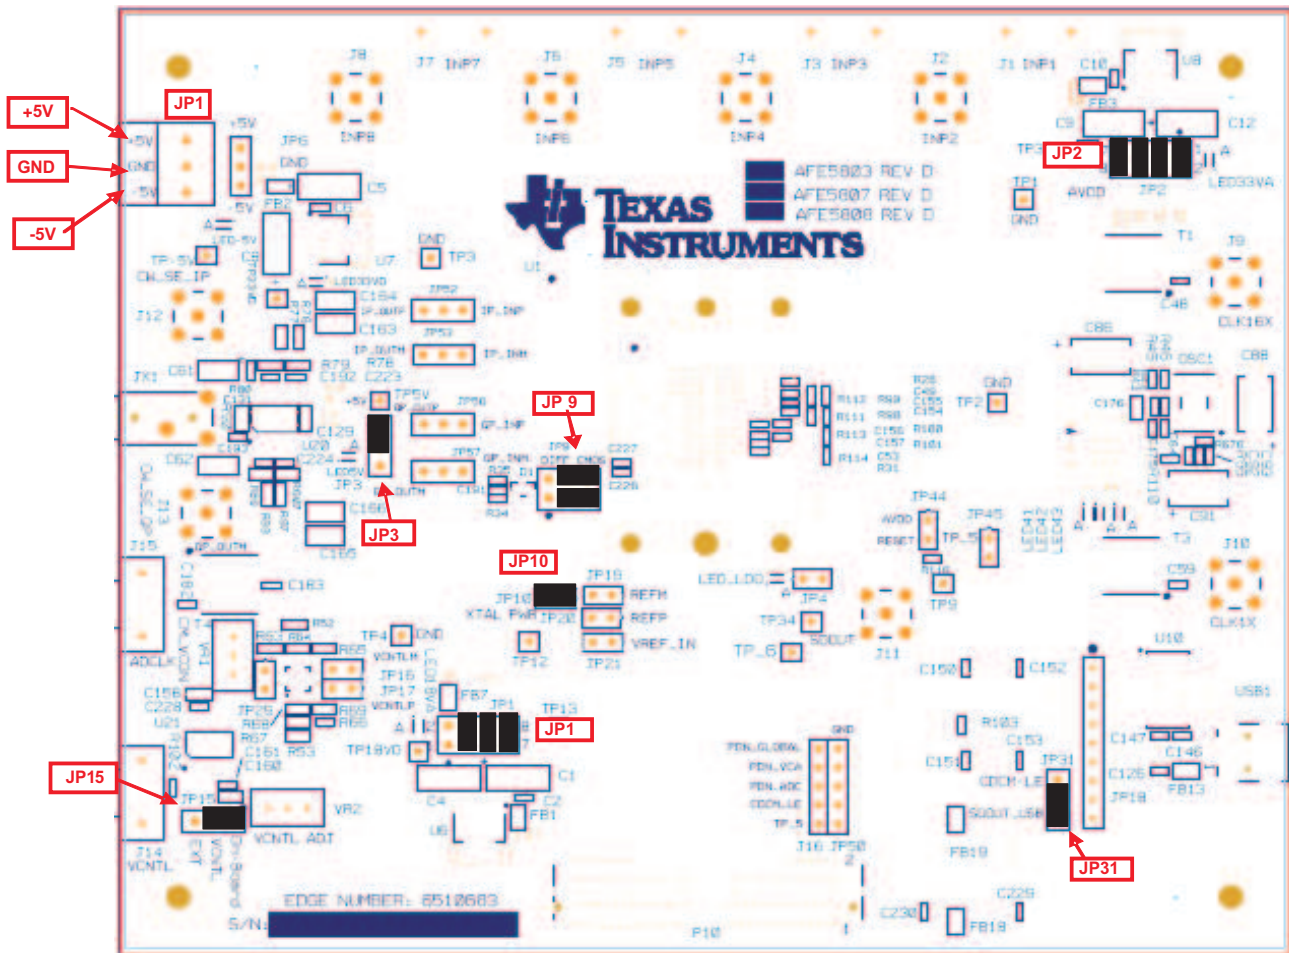

Figure 1. AFE5807/08EVM Basic Configuration
Figure 1 shows the default configuration of the EVM from the factory. The accompanying list identifies the basic components on the EVM board.
6. JP31 always set as Figure 1.
Two EVMs are required to evaluate the AFE5807/08 device. The following illustration shows the exact setup of these two boards and external connectors. For the default configuration as shown in Figure 1, it is unnecessary to have an external sampling clock and external Vcntl supply. The onboard CMOS clock and onboard Vcntl are used.